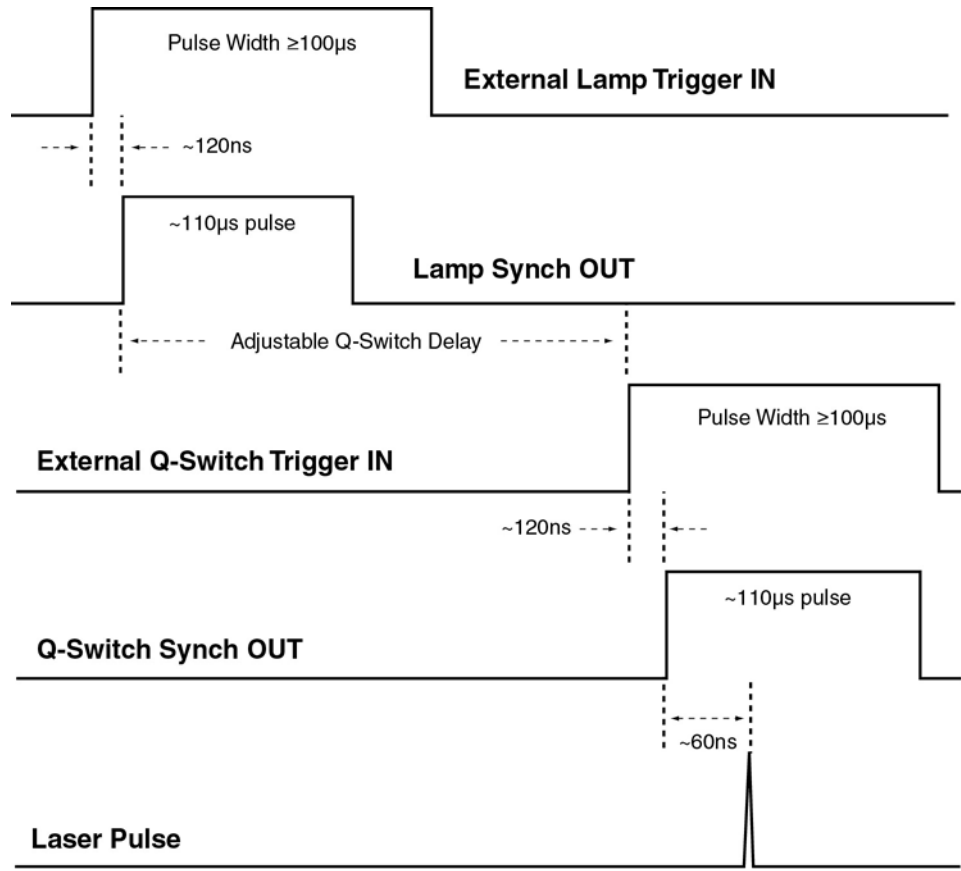

Figure 4-4: Timing Diagram for External Triggering
**External Triggering** External triggering gives the user control over the timing of each laser pulse. The user must supply TTL pulses to Laser 1 and Laser 2 flashlamp and Q-switch BNC’s with the appropriate delay. The Flashlamp and Q-switch switches should both be in the EXT position. The delay between the flashlamp and the Q-switch TTL fire pulses is important to obtain the optimum laser performance. The timing diagram for external triggering is shown in Figure 4-4.